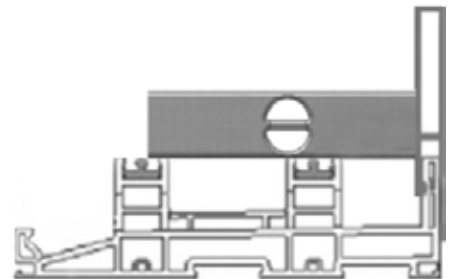

Figure 9
- **Helpful Tip:** Use a short torpedo level and balance it across the frame sill (avoiding the riser) to verify the sill is level from inside to outside (Figure 9). Use a plumb bob to make sure the frame head is in alignment with the sill. If the tracks at the frame sill and head are not aligned, panels may not roll correctly.